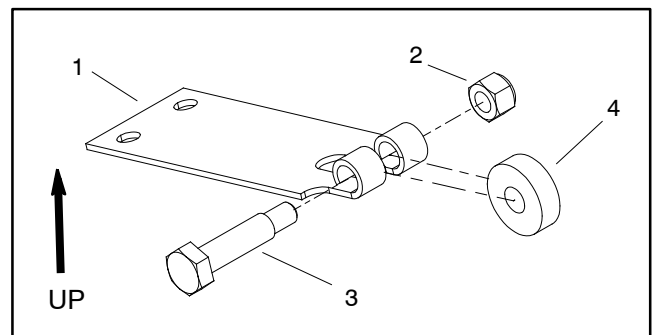

Figure 11
5. Remove two (2) cap screws (item 21) and flange nuts (item 22) that secure leaf spring to motor bracket. Remove leaf spring assembly and flat washers (item 5) from bracket. If necessary, remove bearing from leaf spring (Fig. 11).
5. If bearing was removed from leaf spring (Fig. 11), position bearing to leaf spring and secure with shoulder bolt and lock nut.
6. Position leaf spring assembly and flat washers (item 5) to bracket. Make sure that five (5) washers are placed between spring and bracket at each mounting hole. The bearing on the leaf spring should be centered on the outside of the v-belt. Secure leaf spring to motor bracket with two (2) cap screws (item 21) and flange nuts (item 22).